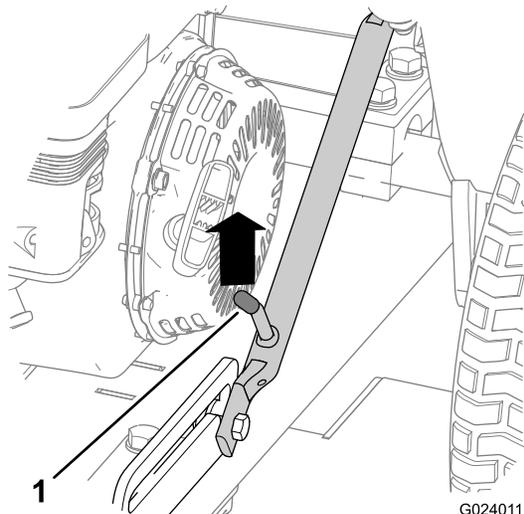
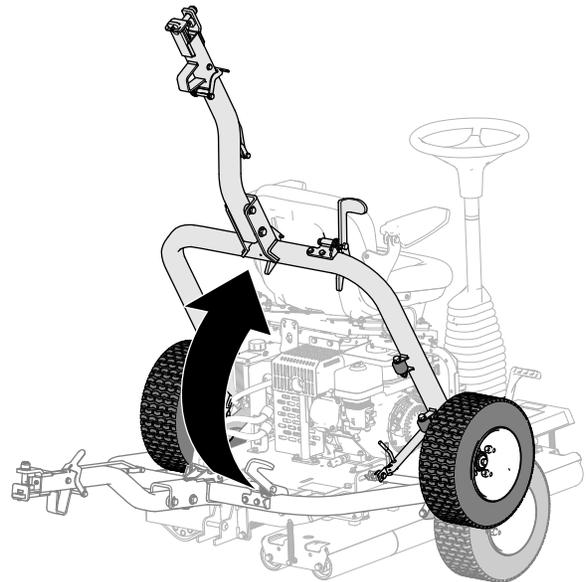

Figure 17
Figure 22
1. Push up on the hitch assembly until the latch lever is unlocked from the slide detent (Figure 17).
5. Raise the hitch (Figure 22) until the latch lever locks in the side detent (Figure 17).